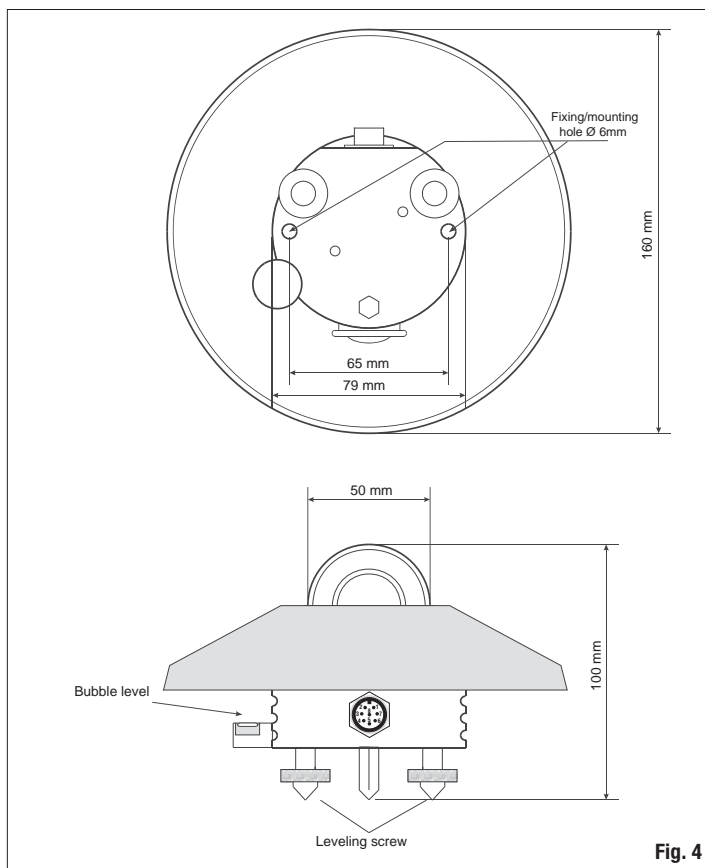

Fig. 4
- The LP UVB 02 radiometer is provided with a spirit level for carrying an accurate horizontal leveling. The adjustment is made by means of two leveling screws that allow to adjust the radiometer inclination. Use the two 6mm-diameter and 65mm-interaxial-distance holes to mount the instrument on a plane. Remove the shade disk to access the holes and reposition it after mounting (see Fig. 4).
| Dimensions: | Fig. 4 |